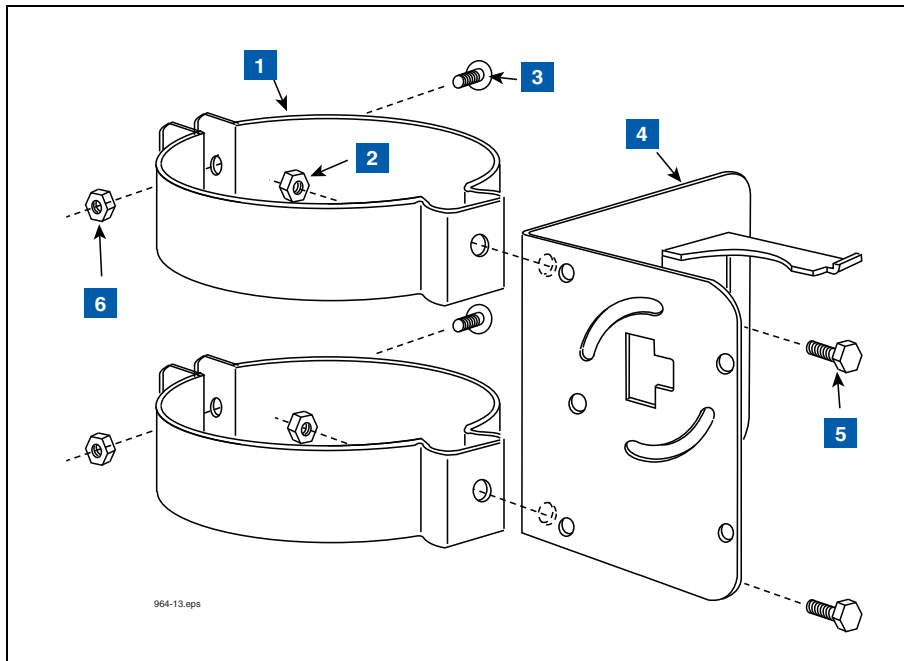

Figure 13. Attaching Hangers To Battery Pack Support Bracket
1. Connect the two conduit hangers from the kit (2- or 4-inch as required) to the battery pack support bracket as shown in Figure 13.
#### LEGEND FOR NUMBERED BOXES IN Figure 13